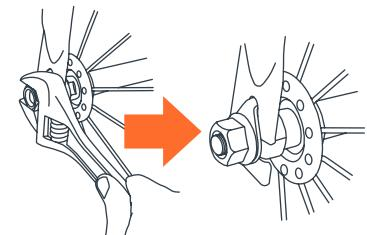

Fig. 4
4) • With the wheel in position, install the axle nuts and tighten with standard crescent, box, or open end wrench. You should feel significant resistance and the wheel should be held tightly in place (Fig. 4).